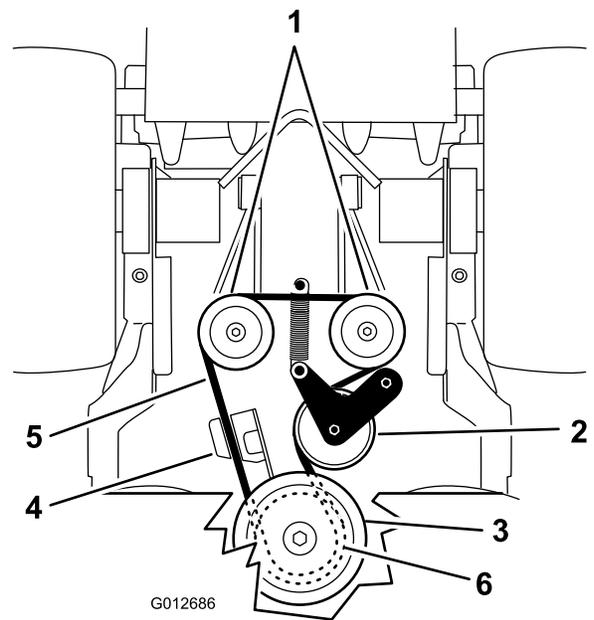

Figure 66
5. Unhook the idler spring from the frame (Figure 66).
7. Install the idler spring to the frame (Figure 66).